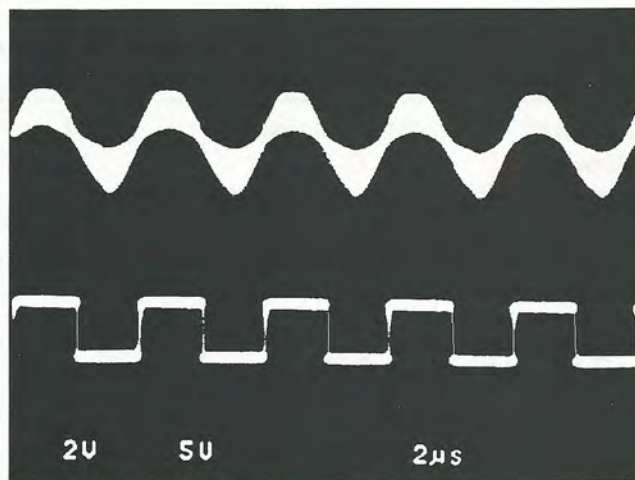

Figure 5-10
1. Adjust R60 RCLK SYMMETRY ADJ for waveform symmetry (50% duty cycle) on CH2 (TP11). The waveforms should correspond to Figure 5-10.